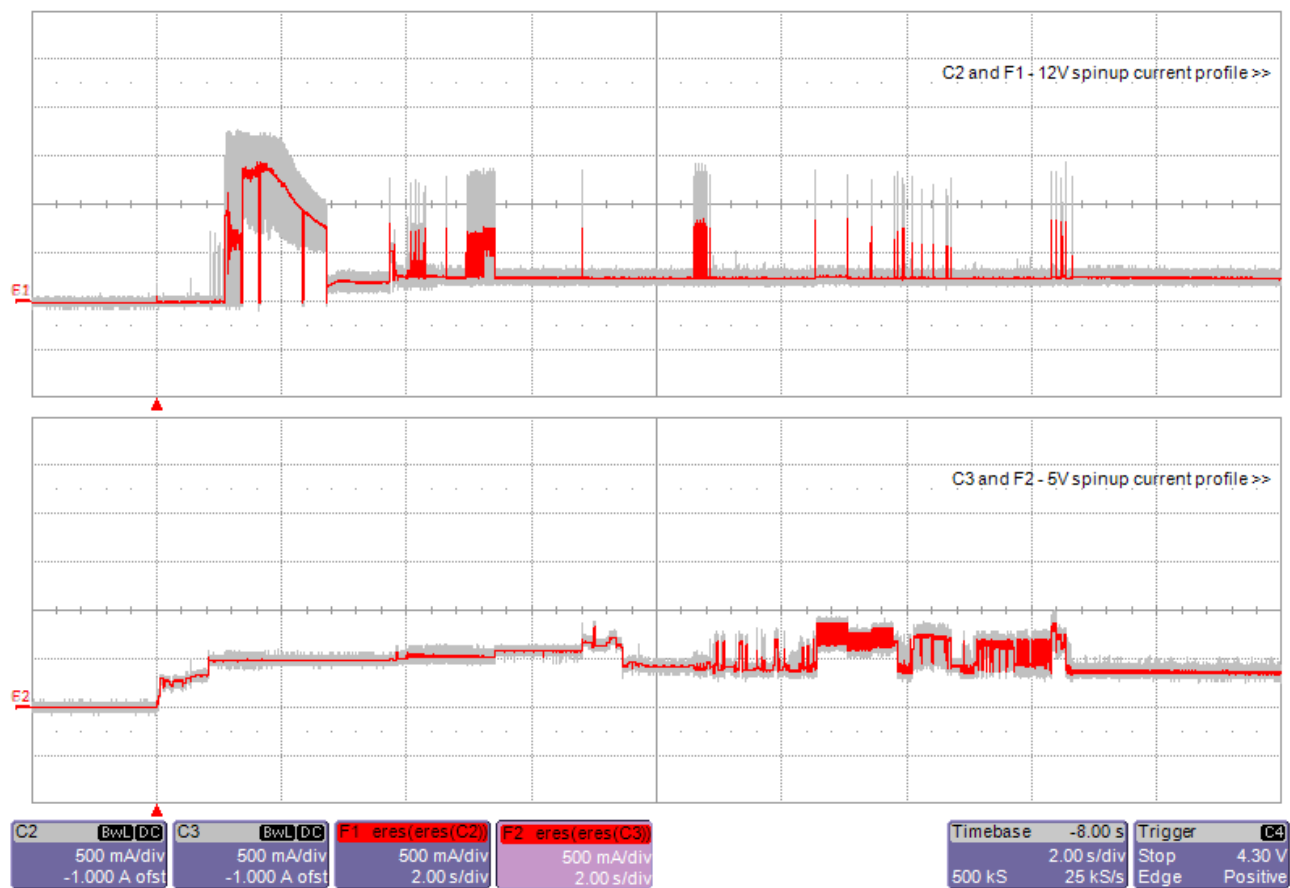

Figure 2. Current profiles for 1800GB models
- [3] See +12V current profile in Figure 2.